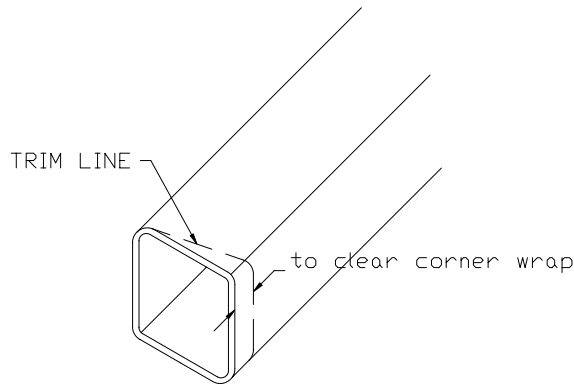

Figure 9.5.1
- 1) One FUS-5 will need trimming now or during corner wrap installation, as in Fig. 9.5.1. This will be the forward FUS-5.